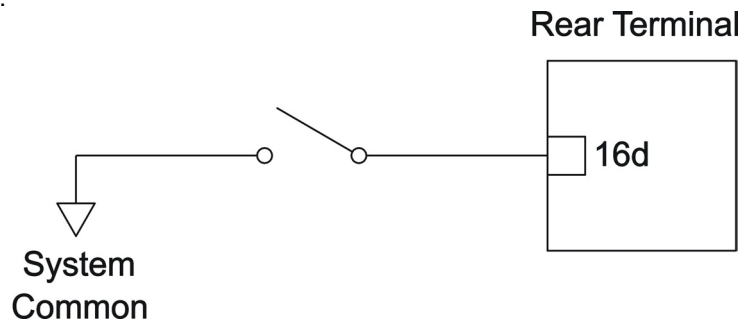

Figure 33 – Switch Connections for Card Test Feature
Figure 33 is a block diagram that shows the switch connections for the **Card Test** feature.
- The Card Test input consists of a single termination for remote testing of the Model TA102A’s functions. For detailed information on the Card Test, refer to Figure 33.
The Card Test Input is provided so that the user can access the Card Test feature remotely. One end of a normally open SPST switch is connected to this termination and the other end is connected to system common (see Figure 33).